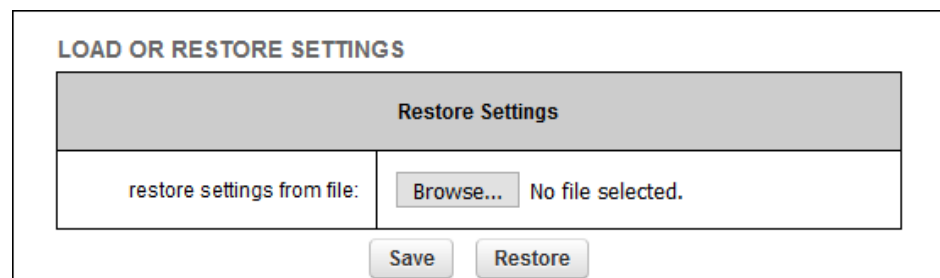

Figure 59. Configurator GUI (LOAD OR RESTORE SETTINGS dialog)
- The **LOAD OR RESTORE SETTINGS** dialog will be shown (Figure 59 \(page 141\)).